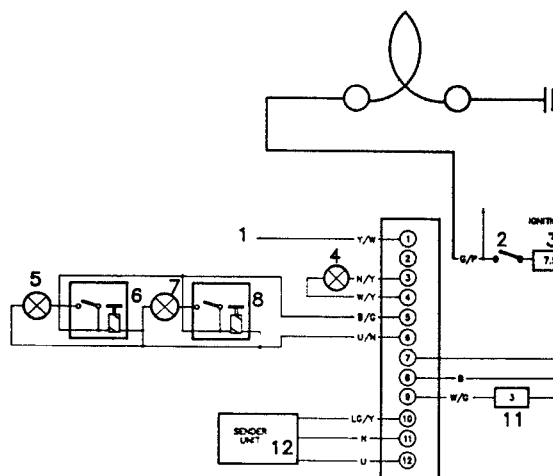

Figure 9
2. Connect a 12 volt test lamp between the lead suitable earth, see figure 9.